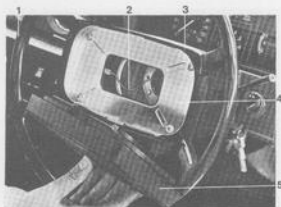

Fig. 6-50. Steering wheel components
1. Lever loose the impact guard (5, Fig. 6-50).